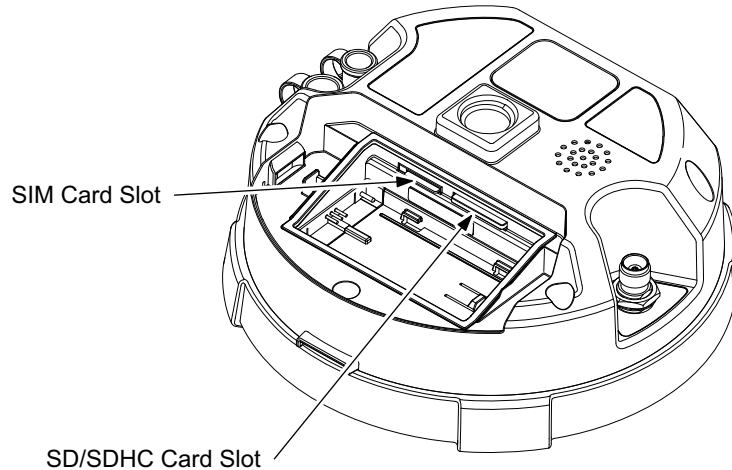

Figure 25: GRX2 Card Slot Example
3. Carefully push the SD/SDHC card, label side down, into the SD/SDHC card slot (Figure 25) until it locks into place. Or, push the card once to remove it.